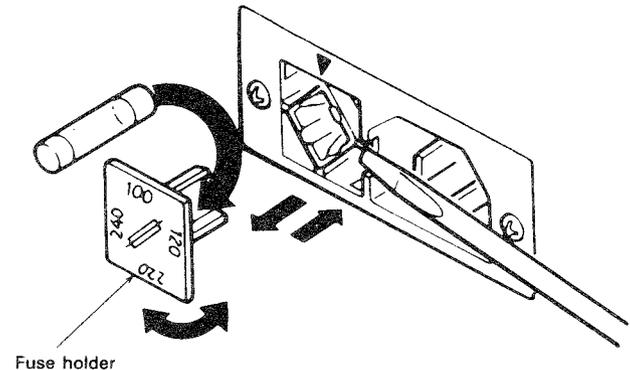

Fig. 6
2. Remove the fuse holder in the rear panel using a standard screwdriver (see Fig. 6).
voltage to the mark ▼ and plug the fuse holder back into place. When changing the supply setting from 100/120V to 220/240V, change the 0.3A fuse for a 0.2A one. (see Fig. 6).